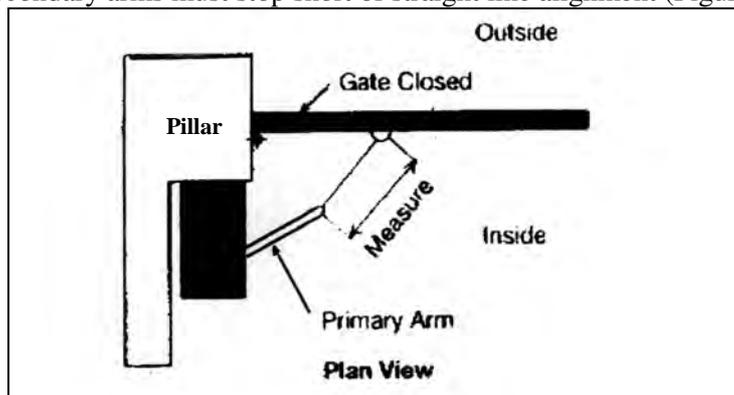

Figure 7: Measure Length of Secondary arm
1. Move the Primary arm to a position suitable for the close gate. Remembering that in the closed position the Primary and Secondary arms must stop short of straight line alignment (Figure 7)